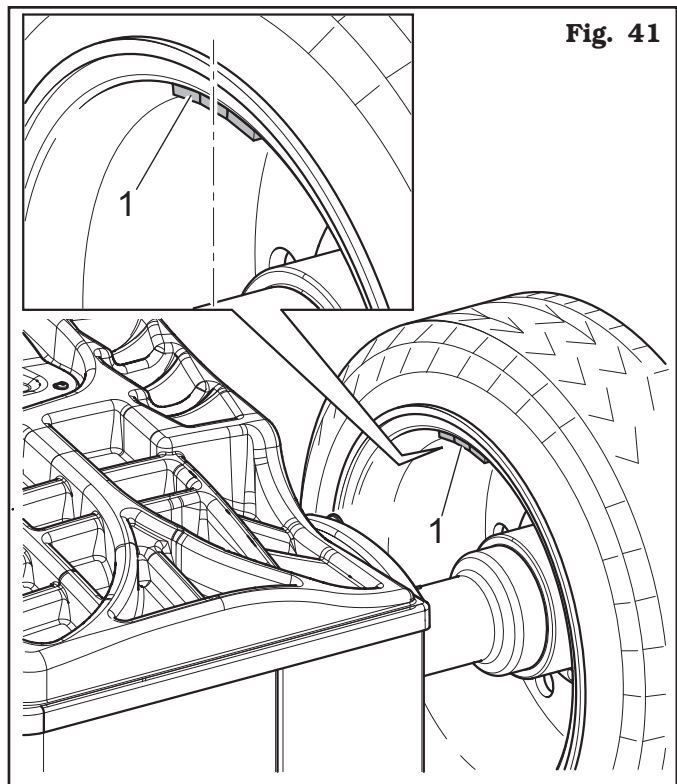

Fig. 41
The adhesive weight on the inner side of the wheel. The inner side weight must be positioned **by hand on the vertical** – at "12 o'clock" (see Fig. 41 ref. 1).